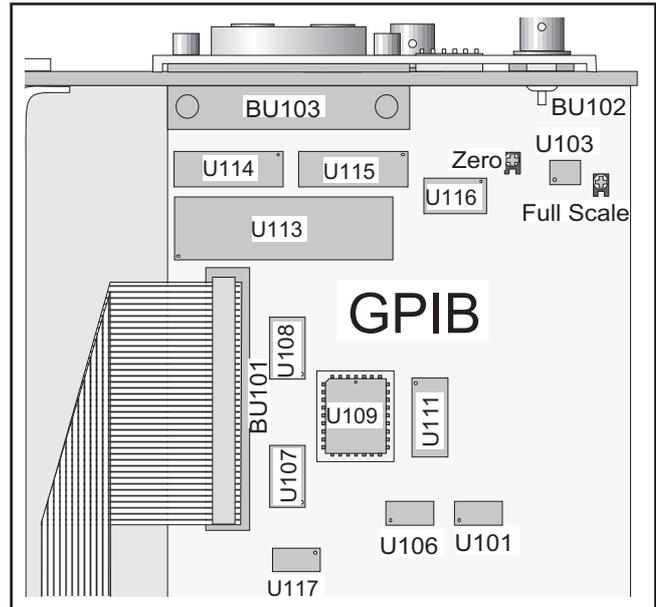

Fig. 6-6 Trimmers for the GPIO interface.
- Adjust the trimmer ZERO (see Fig. 6-6) until the output voltage is 0 V ± 1 mV.
- Adjust the trimmer FULL SCALE (see figure 6-6) until the output voltage is 4.980 V ± 3 mV.